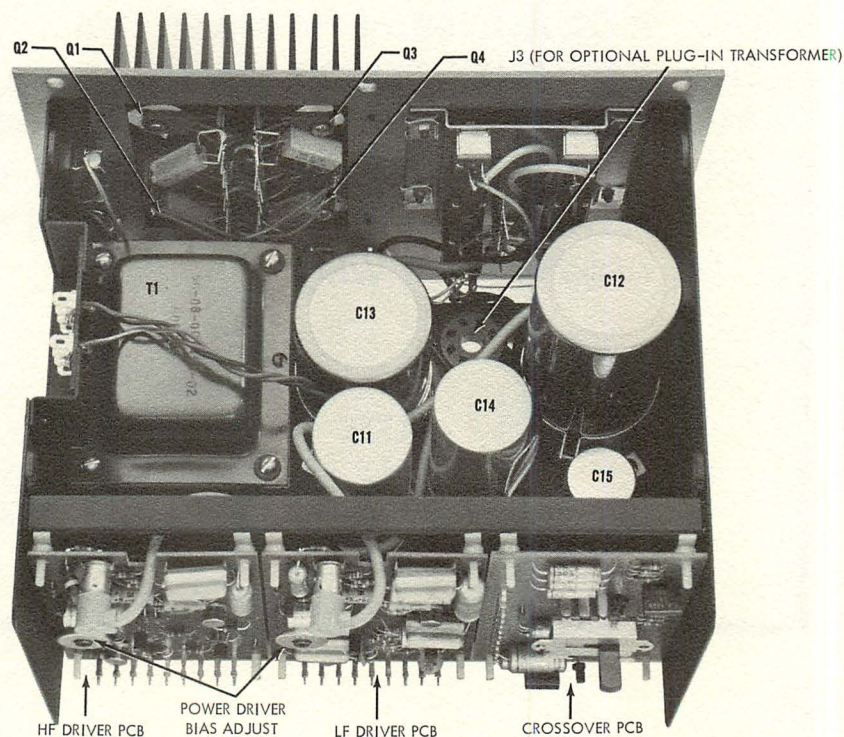

Figure 3. Biampifier Interior
Verify line power is turned off, then remove chassis cover. Carefully plug the accessory input transformer into the octal socket (J3) in the chassis (see Figure 3), then replace chassis cover and secure with eight screws previously removed.
Adjustment of the power driver bias control(s) may be required when replacing a power transistor or power driver printed circuit board (PCB). One bias adjusting control is located on each power driver PCB; R12 on the HF power driver PCB and R13 on the LF power driver PCB (see Figures 3 and 9). These controls set the bias for proper crossover between negative and positive signal components of power transistors Q1 and Q2 (HF); Q3 and Q4 (LF) (see Figures 3 and 5). Improper adjustment of these controls results in distortion at the crossover frequency. To adjust either R12 or R13, use the following procedure:
6. Adjust bias control (R12 or R13), as necessary (see Figure 3). Clockwise adjustment increases voltage, counterclockwise adjustment decreases voltage.
A crossover PCB and two power driver PCBs are located within the chassis (see Figures 3 and 6). Use the following procedure to replace a failed PCB with a new or repaired PCB.